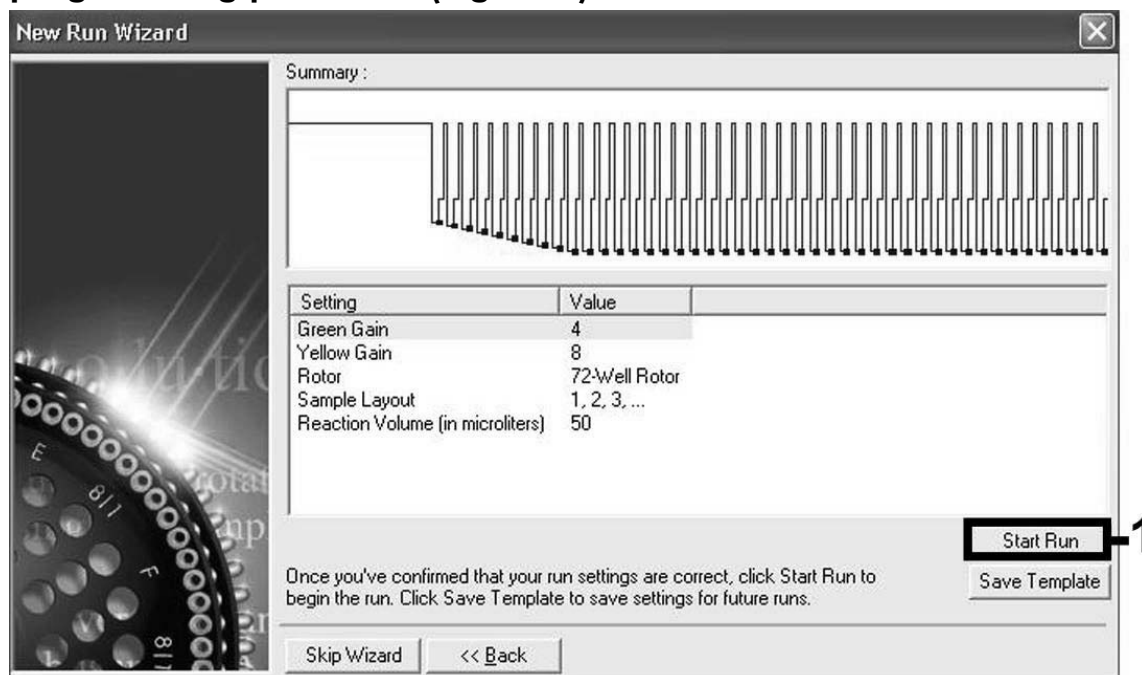

Figure 9. Starting the run. Note that, on the Rotor-Gene 3000, the software will define the fluorescence dyes as "FAM/Sybr" and "JOE".
Starting the run	Figure 9
10. The gain values determined by the channel calibration are saved automatically and are listed in the last menu window of the programming procedure (Figure 9). Click "Start Run".